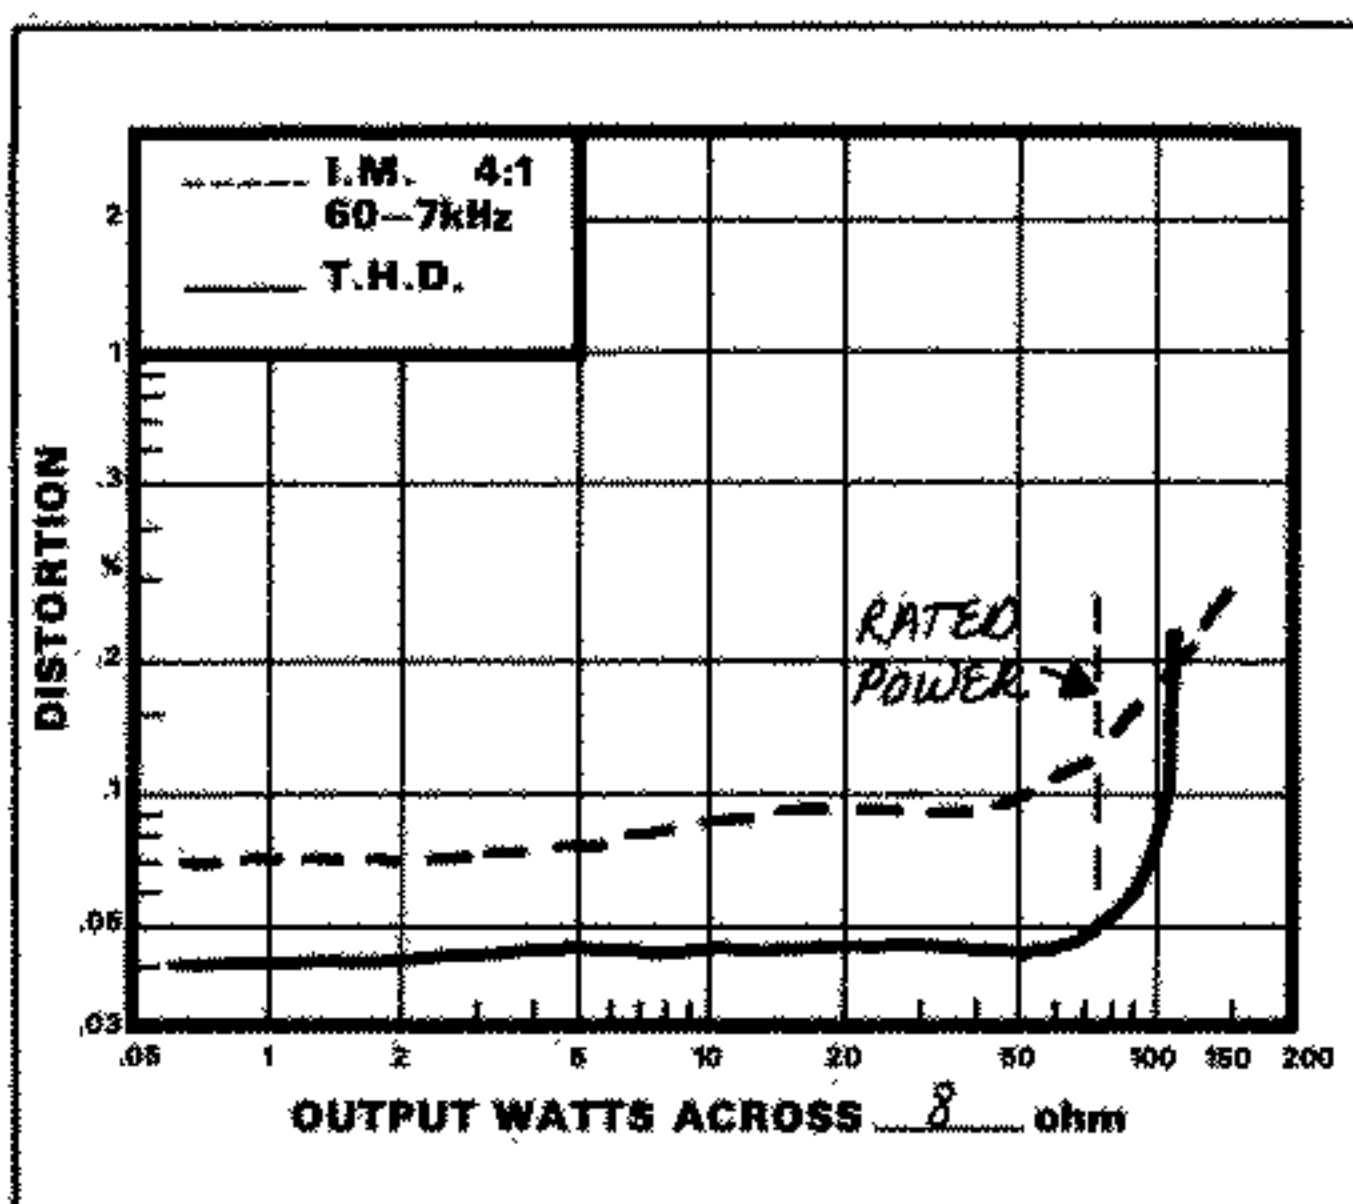

Figure 30 IM and THD Distortion of an Amplifier
1. Use the equipment setup and the procedure for harmonic distortion measurements and make a series of readings by using a 1000 Hz tone with a power output of 250 mW* increasing the output until the rated power of the amplifier is exceeded. Plot this data on a graph similar to that shown in Figure 30.